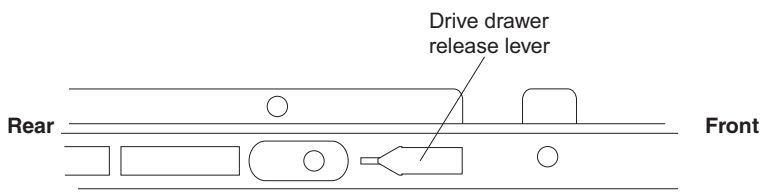

Figure 98. Drive drawer release lever on the side of the drive drawer
- b. Slide the drive drawer release lever (see Figure 98) on both sides of the drive drawer toward you, and remove the drive drawer from the enclosure.